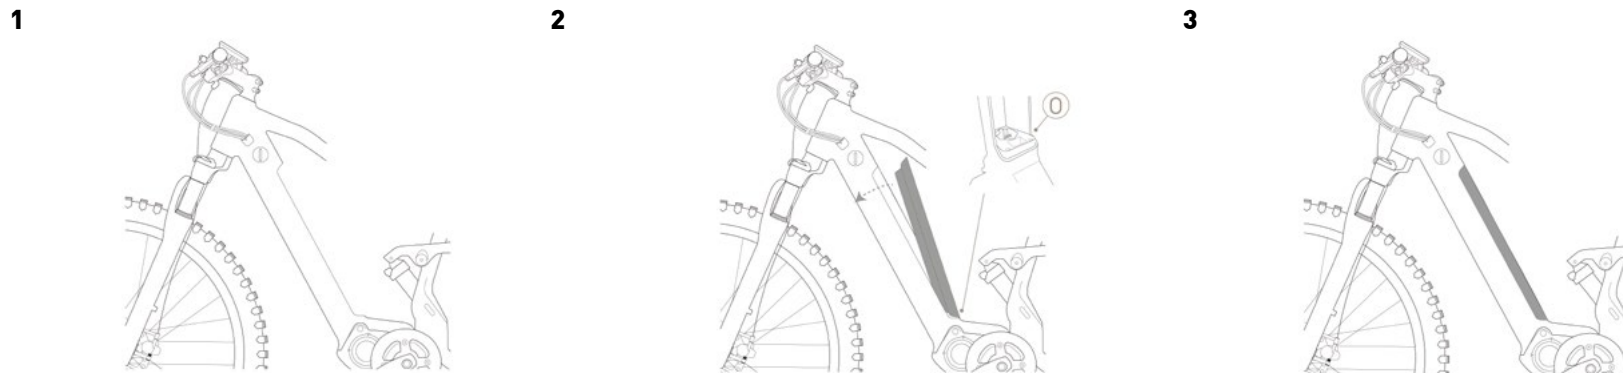

FIG. 8
- 2- Align the battery over the oblique tubing of the frame by first matching the electrical connector (Ref. N - Figure 8).